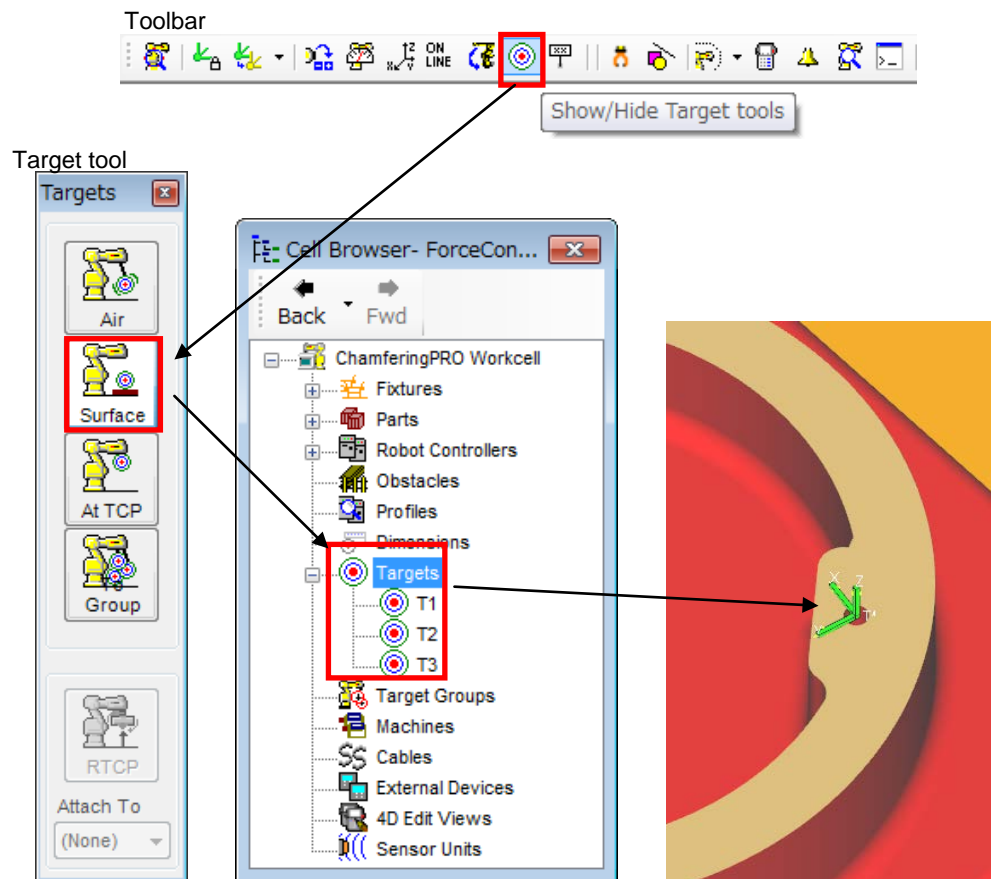

Fig. 3.4(a) Placing a target
- 3 Click the "Surface" button on the target tool to select it. (Fig. 3.4(a))
- 4 While holding down the Alt+Shift key, click an item such as a machined hole on the machined surface of the part to place a target at the center of the hole. (Fig. 3.4(a))
- 5 Open the property page of the target (Fig. 3.4(b)), select part "T201 on Fixture1" for "Attached" on the "General" tab of the target property page, and click the "Apply" button. The target moves under part T201. As shown in Fig. 3.4(c), set the target so that +Z direction is normal to the machined surface and away from the machined surface.